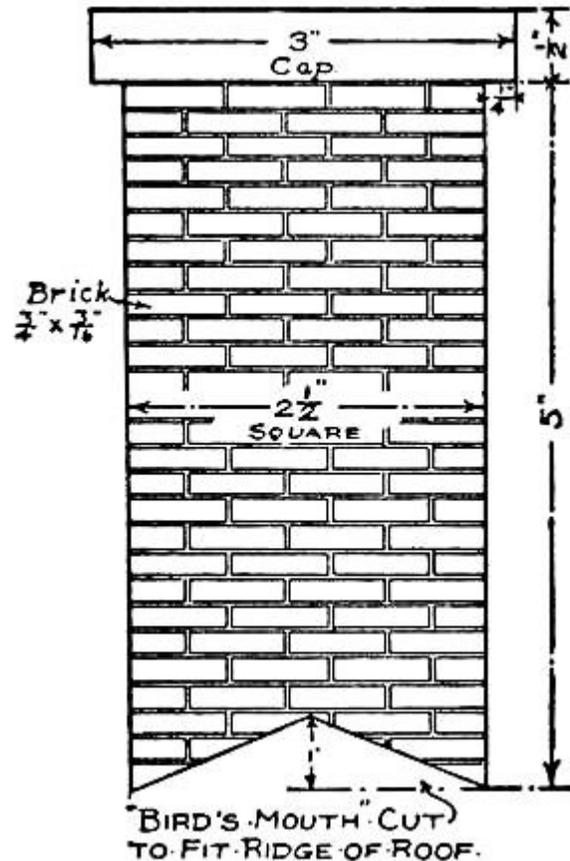

FIG. 92.—Construction of Chimneys.
**The Chimneys.** These should be made up of four pieces, two of which should have bird's-mouth cuts made in the end, as shown in Fig. 92, to make the chimney fit over the top ridge of the roof. The side edges of the pieces should be mitred and fitted together. Nail a strip of wood, half an inch wide, around the tops of the chimneys for caps. You will find it easier to